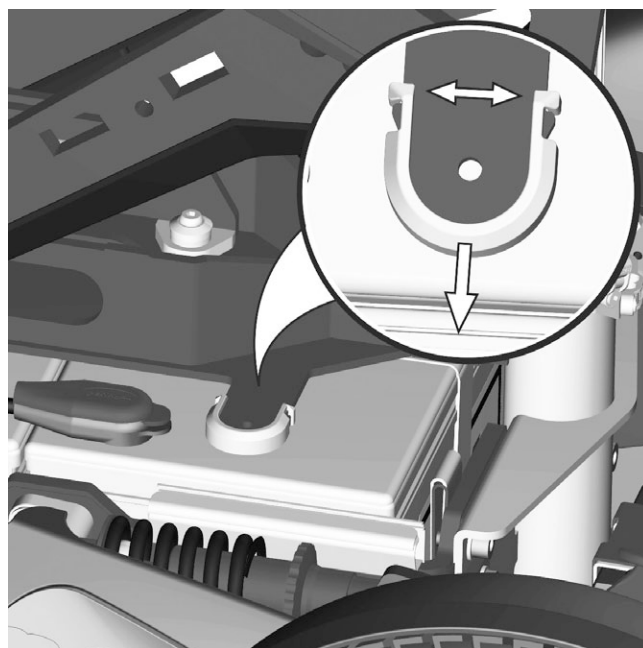

Figure 108. AP Elevator battery pole protection
4. Remove the battery pole protection by carefully levering its edges outwards and at the same time pull it off from the AP Elevator. See fig. 108.